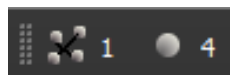

Figure 6.5: **DTRACK3** Tracking status (toolbar element)
One should note that this is a very simple example as multiple targets may be tracked by only a subset of cameras (min. 2) while additional 3DOF markers and reflections do not have to be seen by all cameras at the same time. Compare the *Tracking Status* for more information about tracked targets and single 3DOF markers (see figure 6.5 on page 44).
**Tracking Status** In *Tracking status* the amount of tracked 6DOF targets and single 3DOF markers is shown (see figure 6.5 on page 44). The value on the left, next to the icon depicting a target, summarizes all activated and tracked targets (*Tracking* → *Body Administration* or *mtool*, *Flystick* etc.) inside the measurement volume, in this case only 1. All single 3DOF markers which are not used for 6DOF tracking are shown on the right next to the icon of a marker, in this case 4 markers.